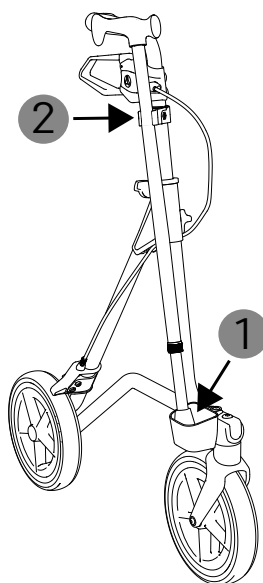

Fig. 13
1. To insert your walking stick, first position the rubber base of the walking stick in the lower section of the cane holder (1, Fig. 13).
2. Then use slight pressure to click the stick into the upper clip of the cane holder (2, Fig. 13).